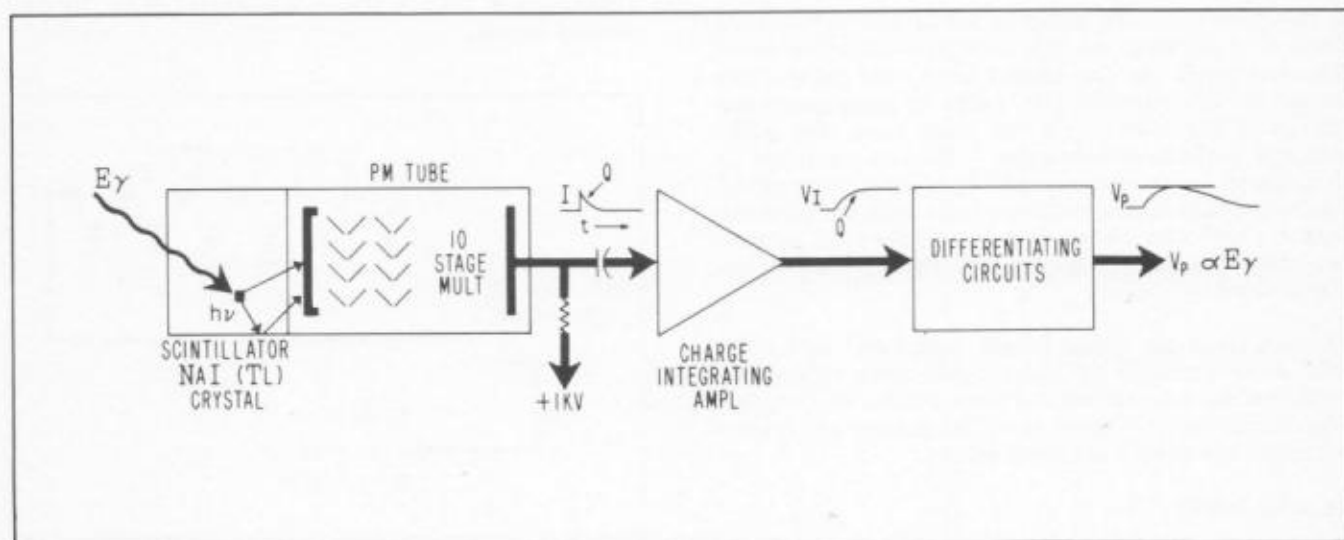

Figure 2. Scintillation detector block diagram
The scintillation detector has three parts: (1) the scintillation phosphor crystal (usually thallium activated sodium iodide), (2) the photomultiplier tube, and (3) the amplifier. Figure 2 shows a block diagram. Gamma rays from the gamma emitter to be measured enter the detector and traverse the scintillation crystal, giving up their energy in exciting and ionizing its atoms. These excited atoms then radiate energy as flashes of light. Each group of flashes (scintillations) is nearly proportional to the energy of the incident gamma ray absorbed in the crystal. The light passes through the transparent crystal and some of it is received at the photocathode, where it ejects electrons. In the photomultiplier tube, these electrons are accelerated to the first of a series of dynodes. The electrons which strike each dynode produce many more electrons by secondary emission, a progressive effect which builds into a multiplication factor of about 10^5 , yet maintains proportionality. The photomultiplier anode collects the resulting burst of charge, which is delivered through the output capacitor to the amplifier input. The charge is integrated and amplified to produce a voltage step, then it is differentiated (clipped) to produce a pulse of optimum shape for input to the pulse height analyzer. Throughout the entire process, the proportionality to the energy of the incident gamma ray is closely maintained. Thus, a single gamma ray's energy is transformed into a single voltage pulse suitable for measurement.